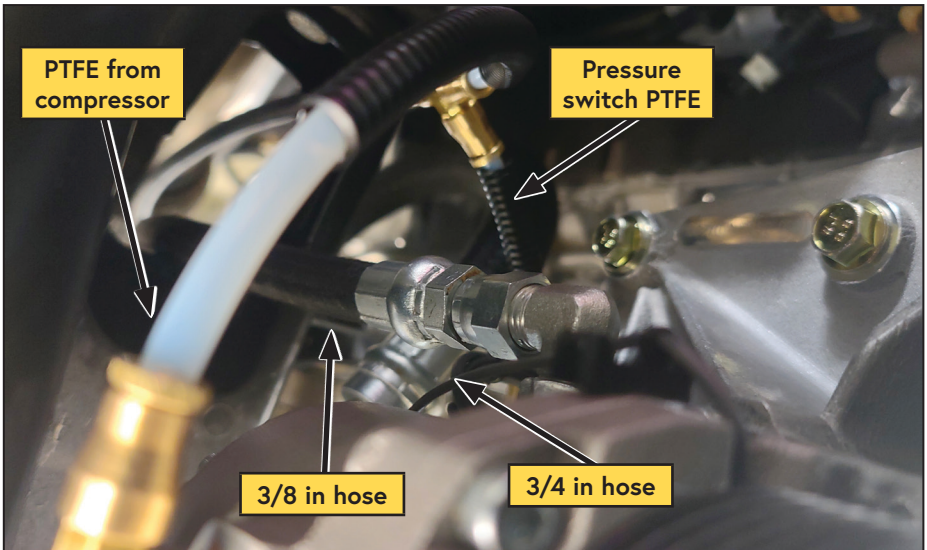

Figure 35 — Install hoses
- Route the 3/4 in and 3/8 in hoses, as well as the 1/4 in PTFE tube, over the frame crossmembers and steering rack (Figure 35).